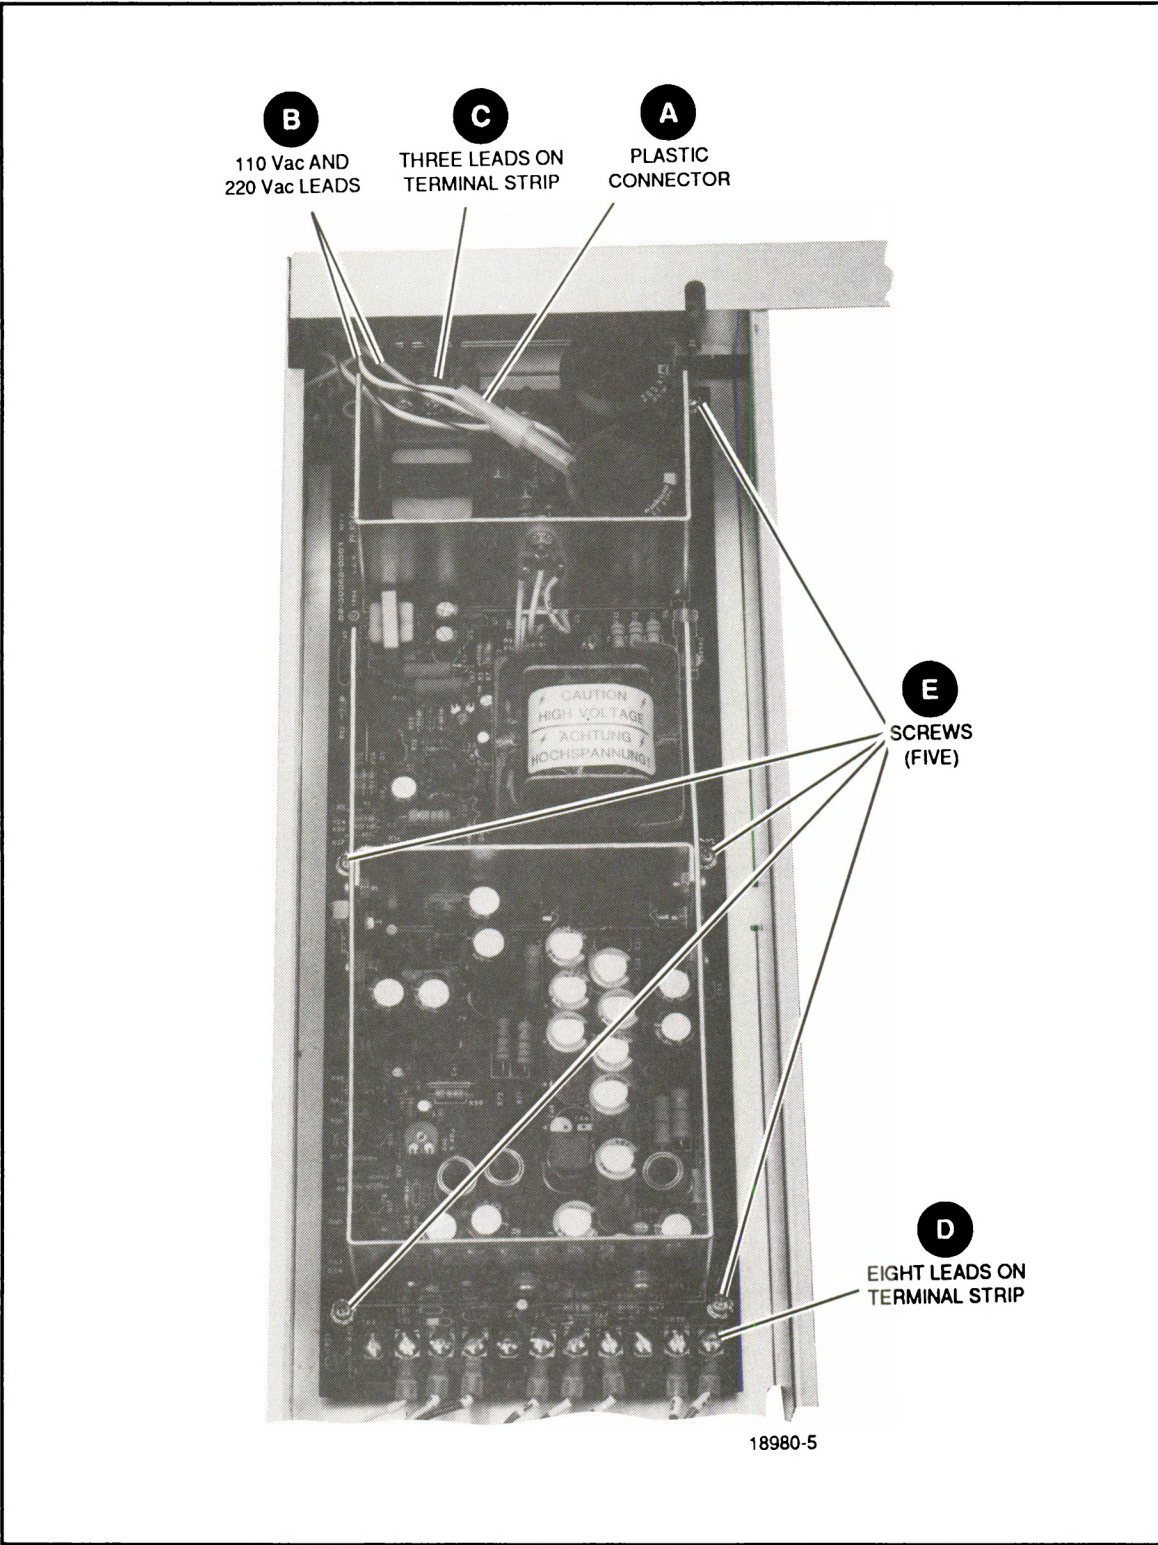

Figure 4-2. Edit Controller Power Supply Removal
The following procedure is used to remove the Power Supply. See Figure 4-2.
4. Carefully separate plastic connector. Refer to Figure 4-2 [A].
(See Figure 4-2 [B].)
6. Label 3 leads on terminal strip (see Figure 4-2 [C]), then loosen screws and remove leads.
7. Loosen 8 screws securing leads at terminal strip (see Figure 4-2 [D]), then remove leads.
8. Remove 5 screws securing Power Supply (see Figure 4-2 [E]).
8. Separate plastic connector on Power Supply (see Figure 4-2 [A]).
9. Label 110 Vac and 220 Vac leads to Power Supply and remove 2 leads. (See Figure 4-2 [B].)
10. Label 3 leads to terminal strip. Loosen screws and remove leads. (See Figure 4-2 [C].)